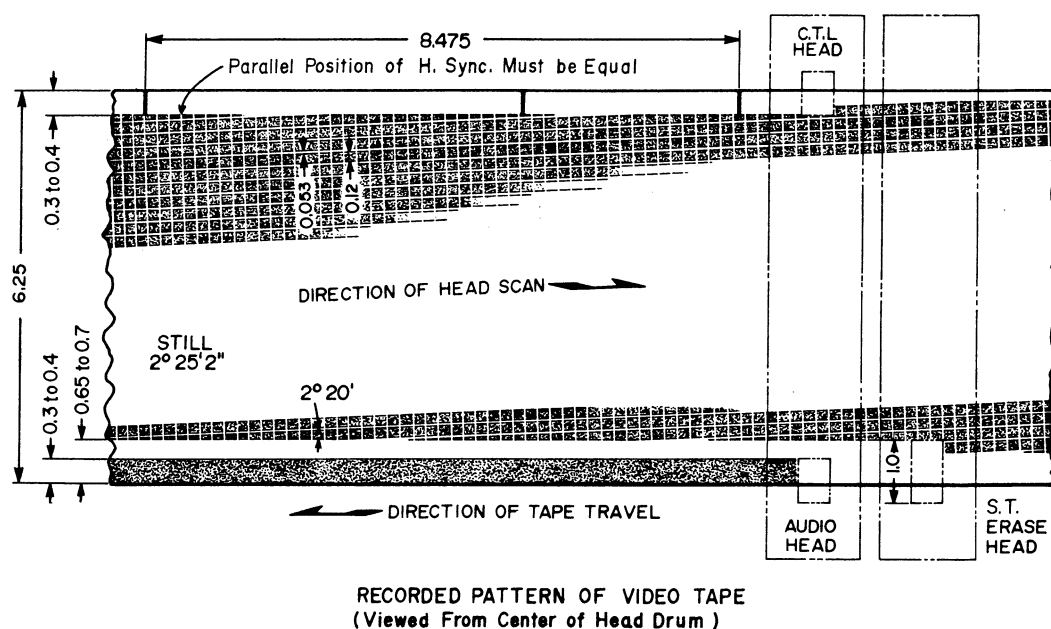

Fig. 1-22
- For side track erase head and CTL and audio head height adjustment, adjust the respective head holding screws (screws C,D,E, and F,G,H) and set to obtain pattern shown in Fig. 1-22.